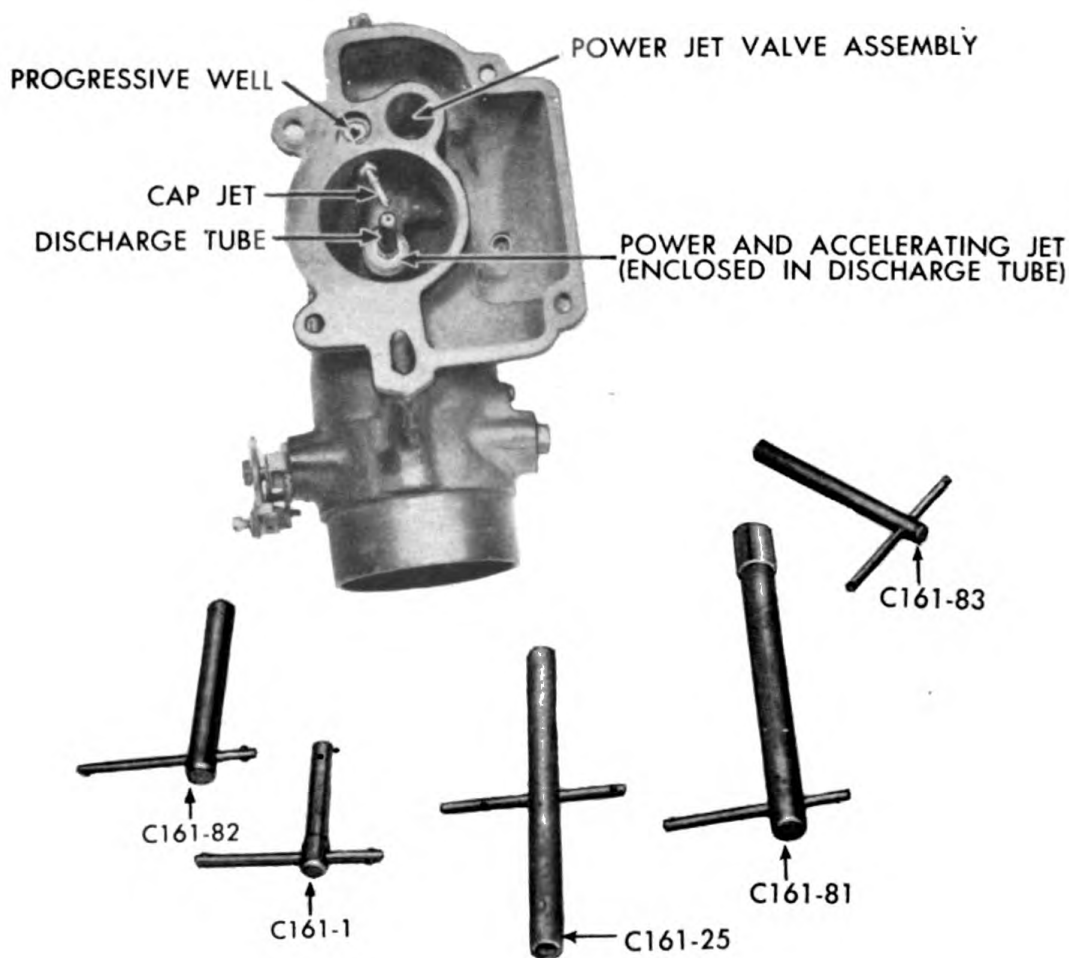

Figure 260. Lower Carburetor Body Assembly & Tools.
T. Remove the cap jet and fibre washer from the side of the round opening on the machined surface of the fuel bowl. Figure 260.